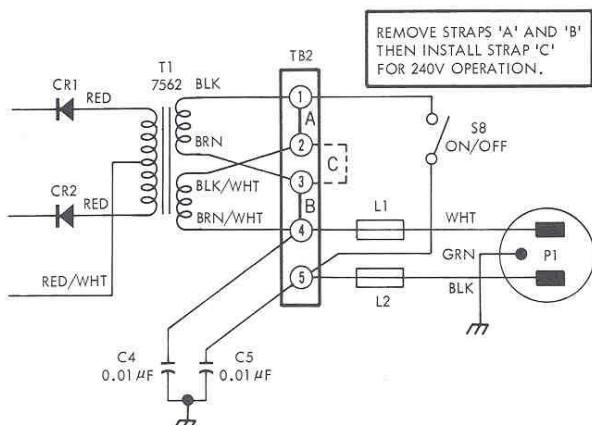

Figure 6. Converting to 240V, 50/60 Hz Power
- Step 3. Remove strap "A" connecting terminals 1 and 2, and remove strap "B" connecting terminals 3 and 4; then solder strap "C" to terminals 2 and 3 (see Figure 6).